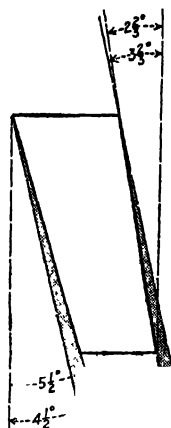

Fig. 17-29. Showing the *theoretical* and the *clearance* angles for a  $1\frac{1}{4}$ -in., four square threads.
**Clearance.** Theoretically a cutting-off tool need have no side clearance, but for practical purposes it must be given clearance, say, 1 deg. on each side, or it will rub. In the same way a square-thread tool must have clearance; *in addition to its theoretical shape* it must be made still thinner at the bottom, say, about 1 deg. on each side (Fig. 17-28b). Suppose the square-thread tool in the example just solved is given 1-deg. clearance on each side; then the angle to grind on the leading side will be the calculated angle *plus* 1 deg. ( $4\frac{1}{2}$  deg. plus 1 deg equals  $5\frac{1}{2}$  deg.), and on the following side the angle will be 1 deg. *less* than the calculated theoretical angle ( $3\frac{2}{3}$  deg. *minus* 1 deg. equals  $2\frac{2}{3}$  deg.). This is illustrated in Fig. 17-29. It is difficult at first to reason why the clearance on a square-thread tool is plus on one side and minus on the other, but it is very necessary to understand it. It is a typical machine-shop problem.